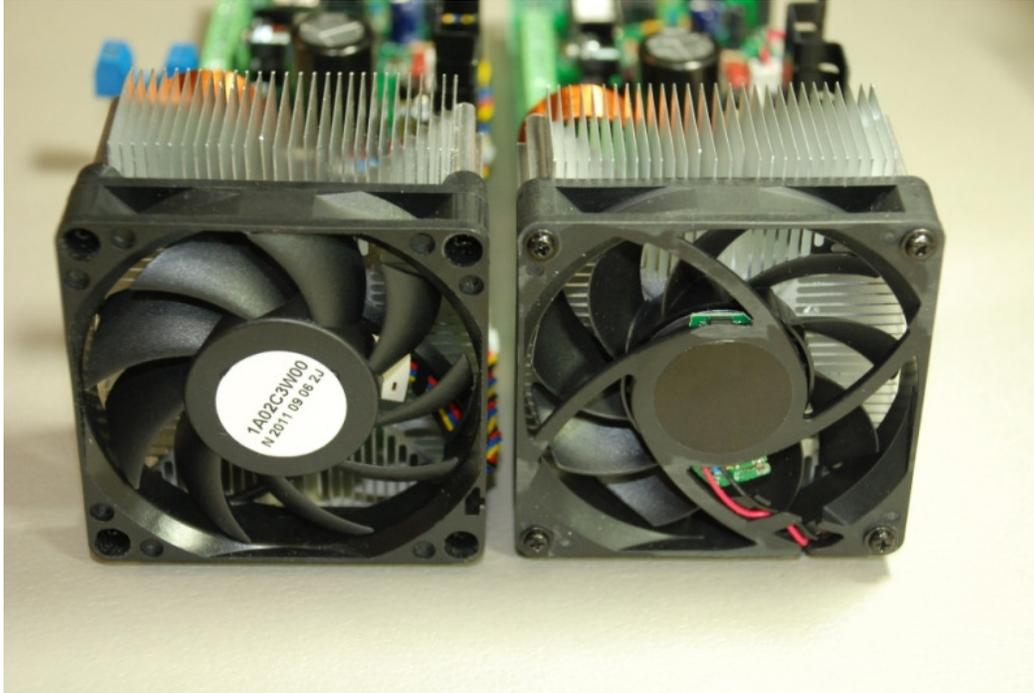

Figure 8.
26) After removing the standoffs, use the four mounting screws that were removed in Step (2) to reinstall the cooling fan against the heat sink facing the opposite direction from which it was originally installed. Attach the fan so that the red and black power wires are visible. (**See Figure 8, RIGHT.**)